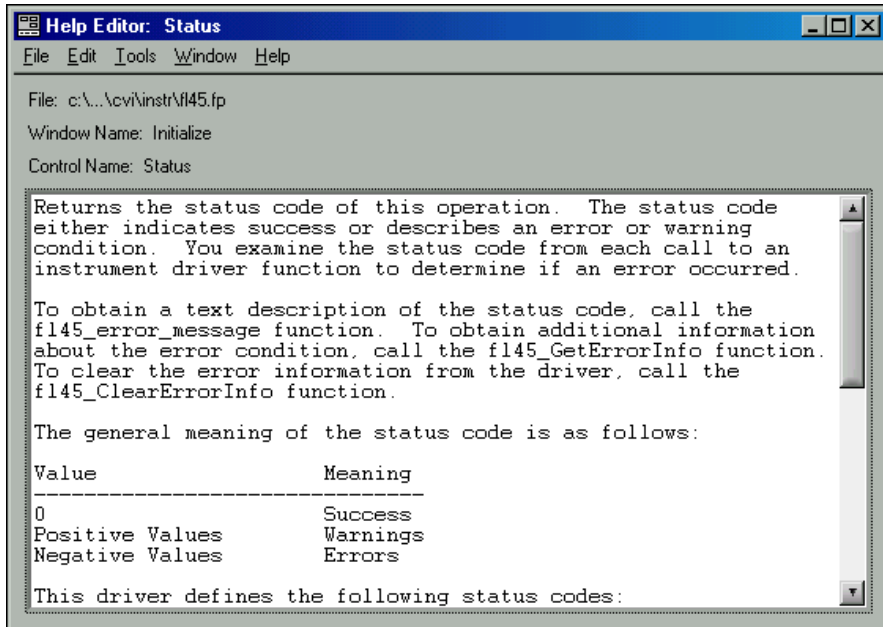

Figure 3-8. Fluke 45 Function Panel Status Control Help
- Status help contains a description of the parameter and the possible error values. Since the possible errors are often too numerous to document effectively, the help should contain guidelines for retrieving error messages as well as error code ranges from various sources. Figure 3-8 shows an example of status control help from the Fluke 45 instrument driver.